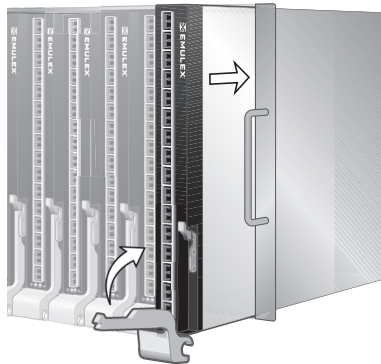

**Figure 1. Removing the Pin Cover**
1. Remove the pin cover from the connector pins at the back of the pass-through module, as shown in Figure 1, Removing the Pin Cover.